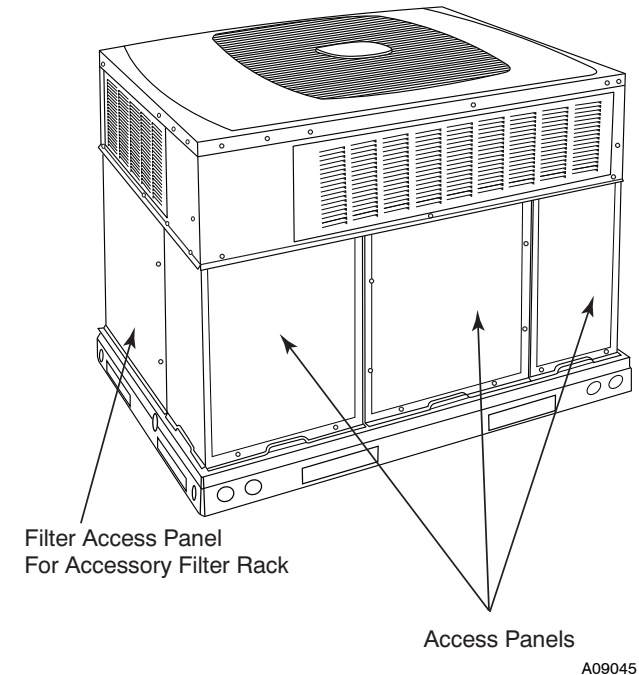

Fig. 2 - Accessory Filter Rack Access Panel
1. Remove the filter access panel (See Fig. 2) using a 5/16-in. nut driver.